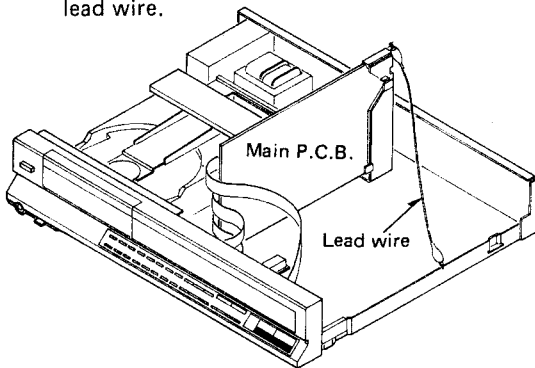

Fig. 25
- (1) Remove the front panel and main P.C.B.
- (2) Pull out the connector (CN803) of main P.C.B.
- (3) Place the main P.C.B. as shown in Fig. 25.
- Note:** When checking as in Fig. 25, be sure to connect the ground spring of main P.C.B. to the chassis lead wire.